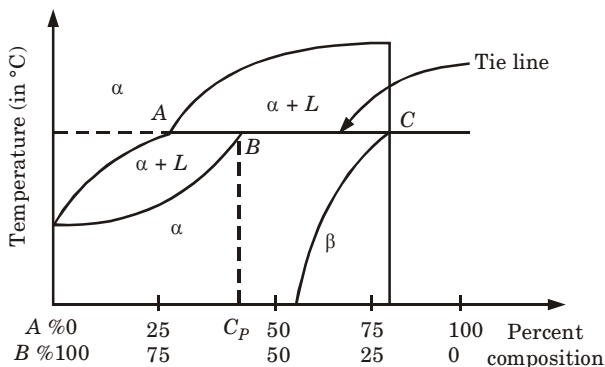

Fig. 3.14.1. Peritectic phase diagram.
- From (Fig. 3.14.1), two components A and B are chosen (such that there is a much difference in their melting point).